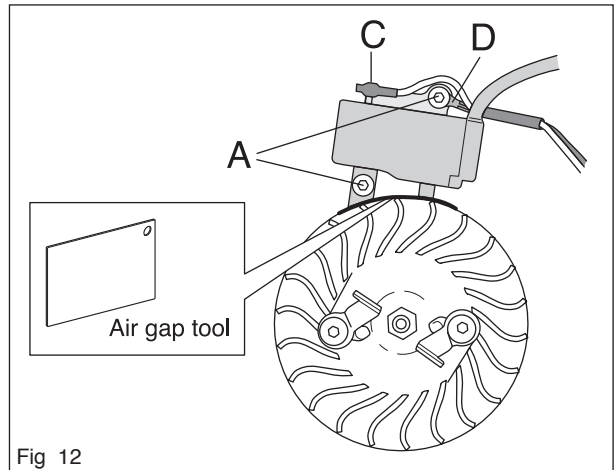

Fig 12
Turn the flywheel so that the magnets are in line with the ignition module. Fit the ignition module with the plastic feeler gauge (502 51 34- 02) held in position at the same time, without tightening the bolts. Fit the earth cable (black) (A). Set a distance of 0.3 ± 0.1 mm, between the ignition module and magnet. The measurement applies to the two lowest lugs on the ignition module. Tighten the screws, tightening torque 4.5–6 Nm. Fit the blue cable on the ignition module (see figure 12).